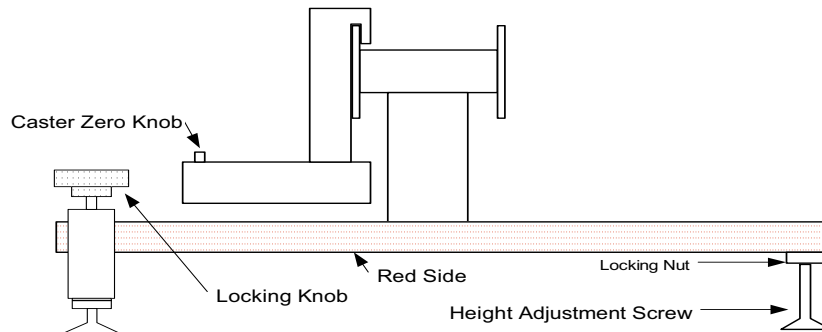

Figure 9
2. Hang the TL-30 Easy Check Angle Gauge on the red side disk in the normal way and zero the caster bubble using the caster zero knob. (Fig. 9)